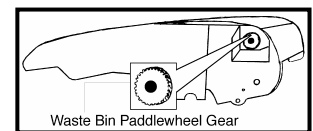

Figure 4
4. Clean the waste bin of waste toner. Be sure to completely remove all old toner. Be careful not to damage the mylar catcher blade and don't lose the gear (Fig. 4) on the end of the waste bin paddlewheel shaft.